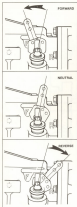

Figure 3-2.
The selector control mechanism and linkage must position the shift lever in the transmission (ward), in Forward (F), Neutral (N), and Reverse (R) shifting positions. A shift lever bracket located on the transmission shift lever must work freely to position the lever in each position. (See Figure 3-2). The selector control mechanism on the bracket must be coordinated with those of the Vehicle Control shift lever linkage, which performs automatic. An improperly adjusted shift mechanism can cause damage to the transmission.